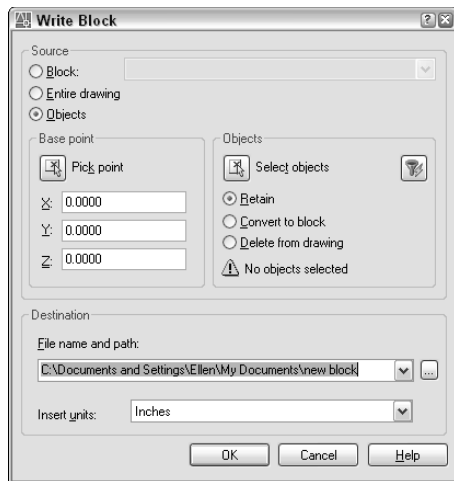

Figure 18-5: Use the Write Block dialog box to save a block as a separate drawing file.
2. In the Write Block dialog box, shown in Figure 18-5, choose the location (drive and folder) for the file.